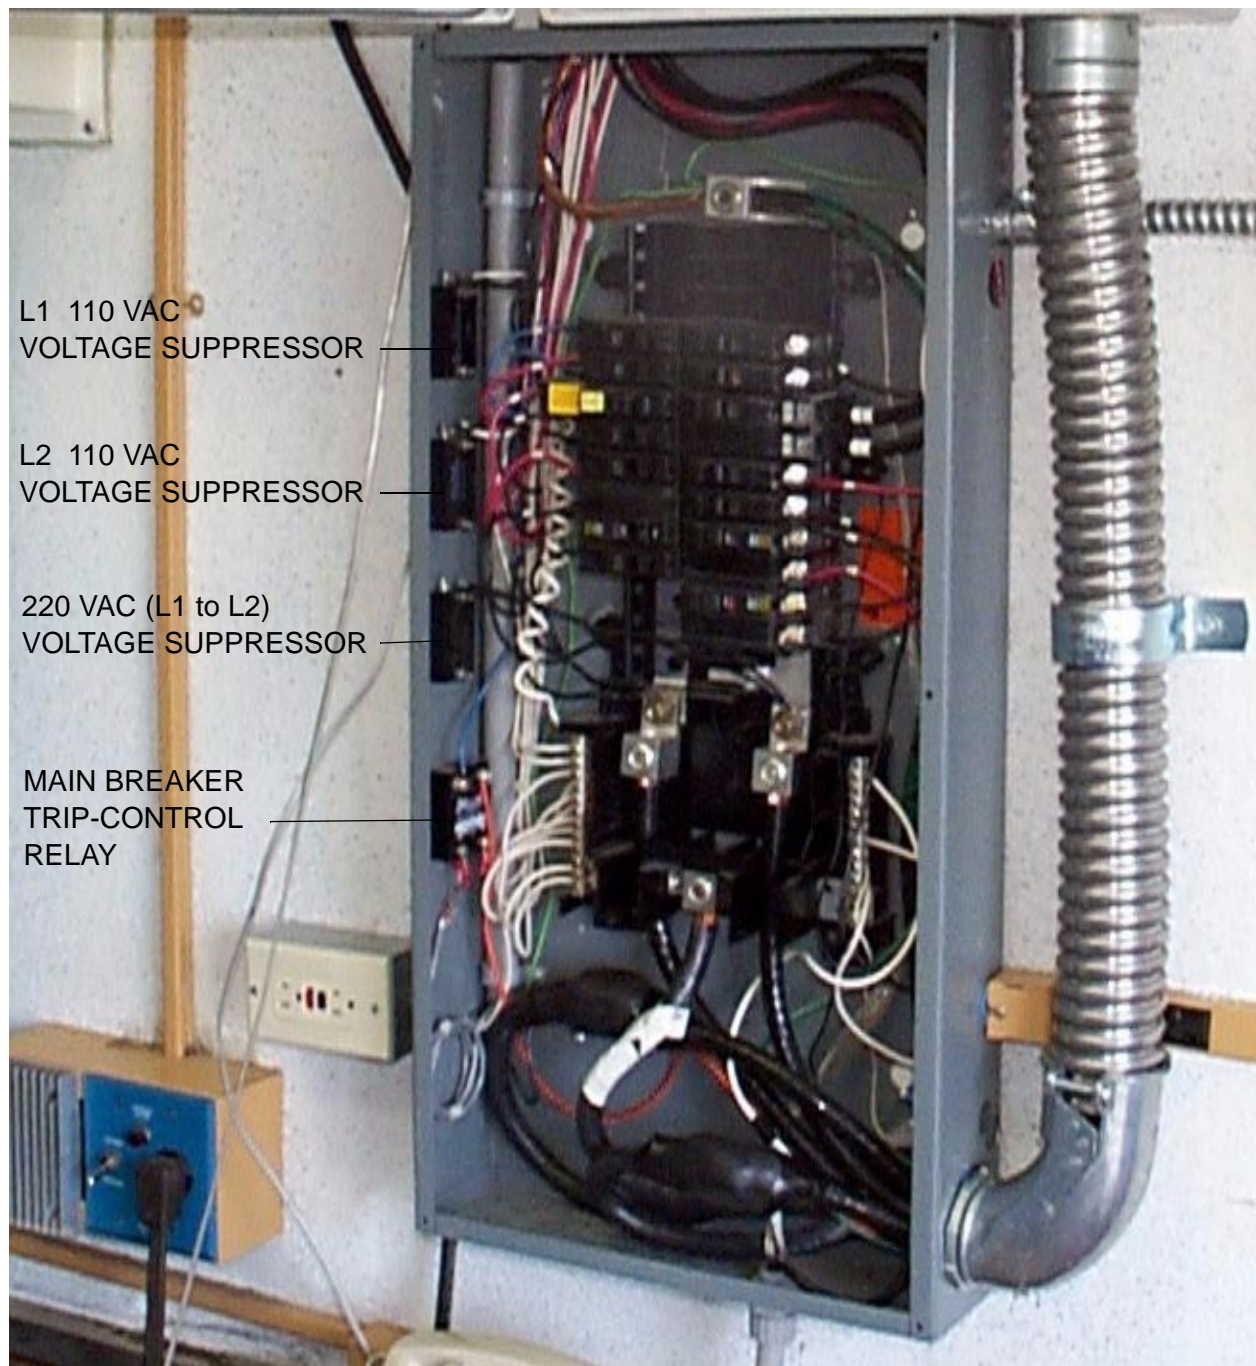

Figure 2-21 Shelter Circuit Breaker Panel Internal Layout
breaker panel of shelter (see Figure 2-21). Replacement of Stage 2 voltage suppression devices requires removing the main breaker panel cover.
3. Locate the voltage suppression devices on the inner left side of the breaker box. Refer to Figure 2-21 for the internal layout of the panel. Trace the wires to their points of connection and disconnect them. The replacement voltage suppression devices will not have wires soldered to them. The wires to the old voltage suppressors must be disconnected and resoldered to the replacement devices. The wire colors and their locations should be noted to properly reconnect the replacement units.